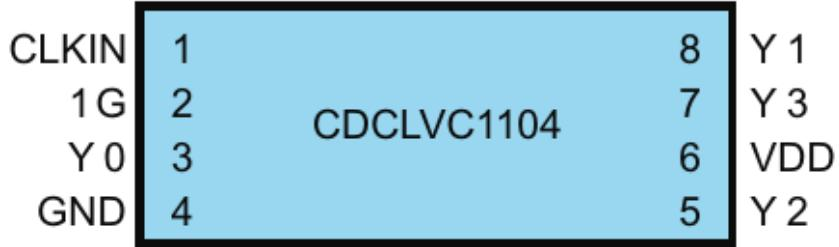

Figure 1.20: CDCLVC1104 chip pin-out
4. Referring to Figures 1.20 and 1.19, connect with some wires the pins in this way:
6. Now connect the interface holes around the M9 chip as shown in Figures 1.20 (blue cable). In the document I was given those are called pin number 1 and 7. Anyway, as I said, without the schematics those numbers are meaningless. Sometimes I wonder if Physicists are really so smart as they think to be.